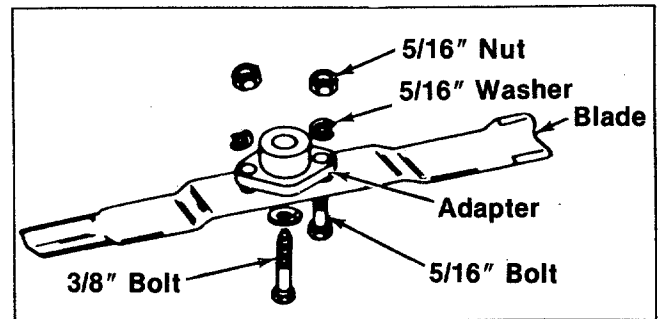

FIGURE 30. BLADE REMOVAL
1. Remove the large bolt and lock washer which holds the blade and adapter to the blade spindle. See figure 30.
3. If the blade or blade adapter needs replacing, remove the two small bolts, lock washers and nuts which hold the blade to the adapter. See figure 30.